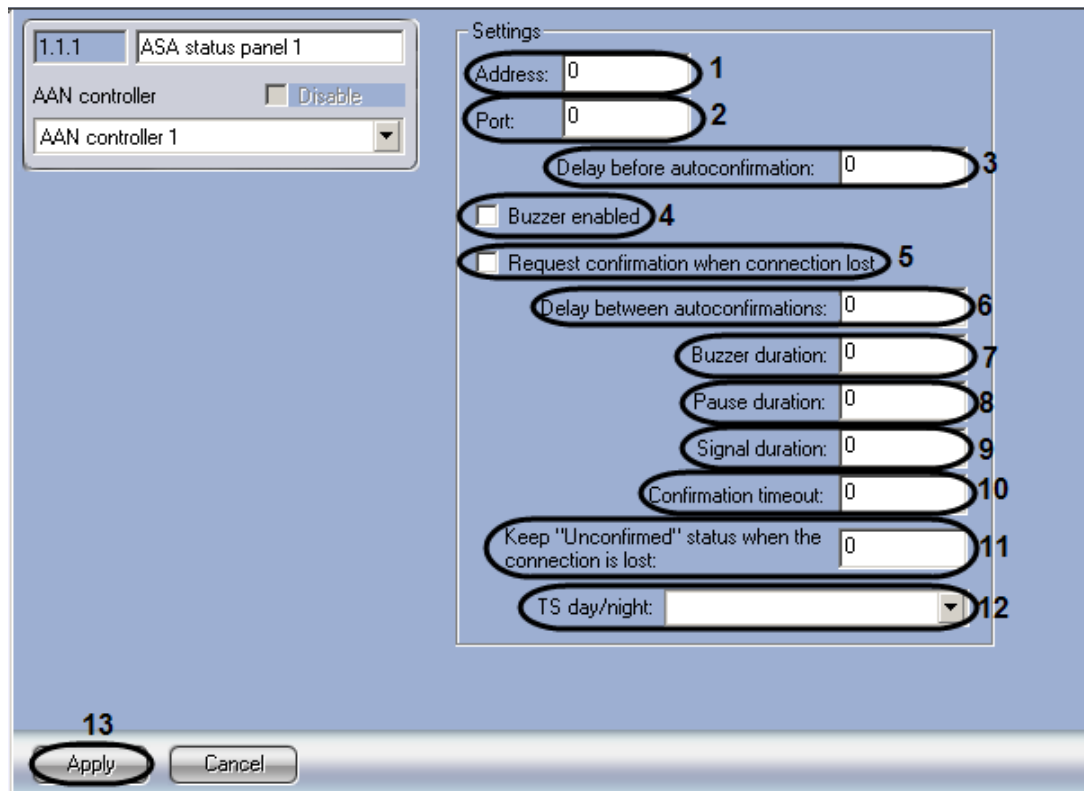

Fig.3.3-6 Settings pane of an ASA Status Panel object
1. Go to the **ASA Status Panel** object's settings panel (Fig.3.3-6).
2. In the **Address** field, enter the ASA panel's unique address (see Fig.3.3-6, 1).
3. Select the port used to connect to the ASA panel from the **Port** dropdown list (see Fig.3.3-6, 2).
4. In the **Delay before autoconfirmation** field, enter the time in seconds before an alarm is automatically confirmed (see Fig.3.3-6, 3).
5. Check the **Buzzer enabled** checkbox if the ASA panel's buzzer is to be enabled (see Fig.3.3-6, 4).
6. If confirmation is required when the connection between the ASA panel and the controller is lost, then check the appropriate checkbox (see Fig.3.3-6, 5).
7. In the **Delay between autoconfirmations** field, enter the time delay (in seconds) between automatically confirmed alarms (see Fig.3.3-6, 6).
8. In the **Buzzer duration** field, enter the duration (in seconds) of the buzzer's tones (see Fig.3.3-6, 7).
9. In the **Pause duration** field, enter the duration (in seconds) of the pause between the buzzer's tones (see Fig.3.3-6, 8).
10. In the **Signal duration** field, enter the duration (in seconds) of the buzzer's light signal (see Fig.3.3-6, 8).
11. In the **Confirmation timeout** field, enter the time period (in seconds) before confirmation of an alarm (see Fig.3.3-6, 10).
- In the **Keep "Unconfirmed" status when the connection is lost** field, enter the time period (in seconds) during which the **Unconfirmed** status will be preserved during connection loss (see Fig.3.3-6, 11).
- From the **TS day/night** dropdown list, select the time schedule that will define day for the ASA panel (see Fig.3.3-6, 12).
- To save changes, click the **Apply** button (see Fig.3.3-6, 13).